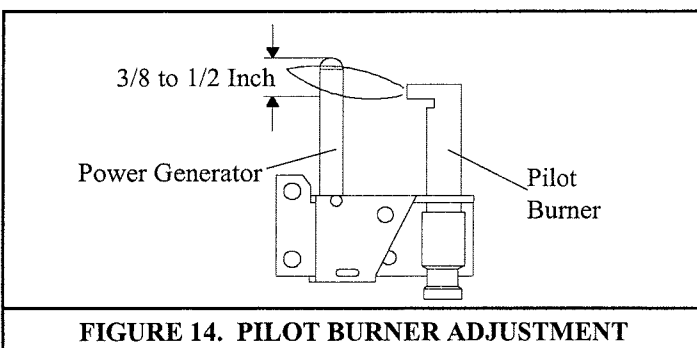

FIGURE 14. PILOT BURNER ADJUSTMENT
- Adjust pilot key to provide properly sized flame. See Figure 14 for properly sized flame.